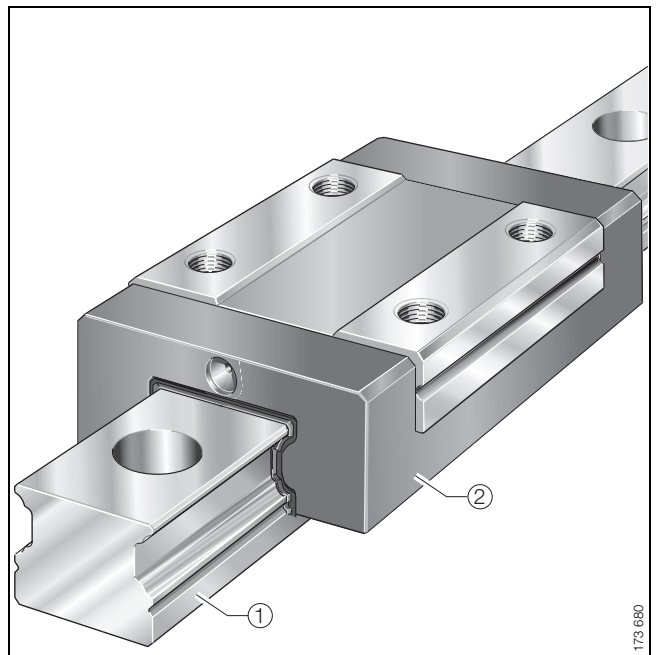

Figure 1 · Scope of delivery – guideway and carriage
Guideways and carriages are supplied assembled. At least one carriage ② is located on one guideway ① (Figure 1).